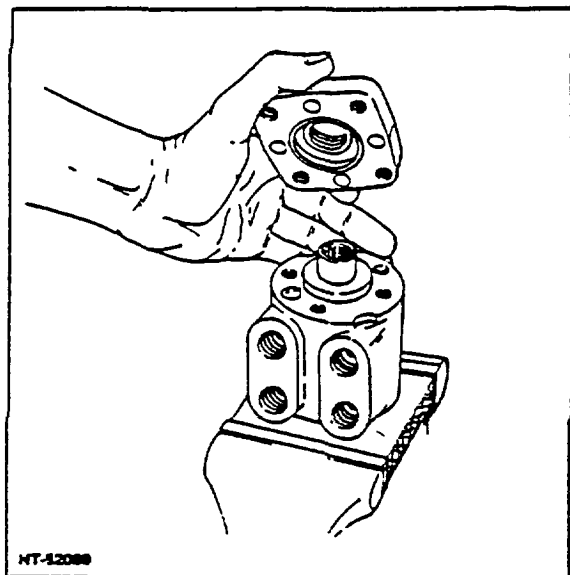

Figure 25. Installing Mounting Plate
- Place the mounting plate subassembly over the spool shaft and slice it down smoothly in place over the cap locator bushing so that seals will not be disrupted in assembly (Fig. 25).